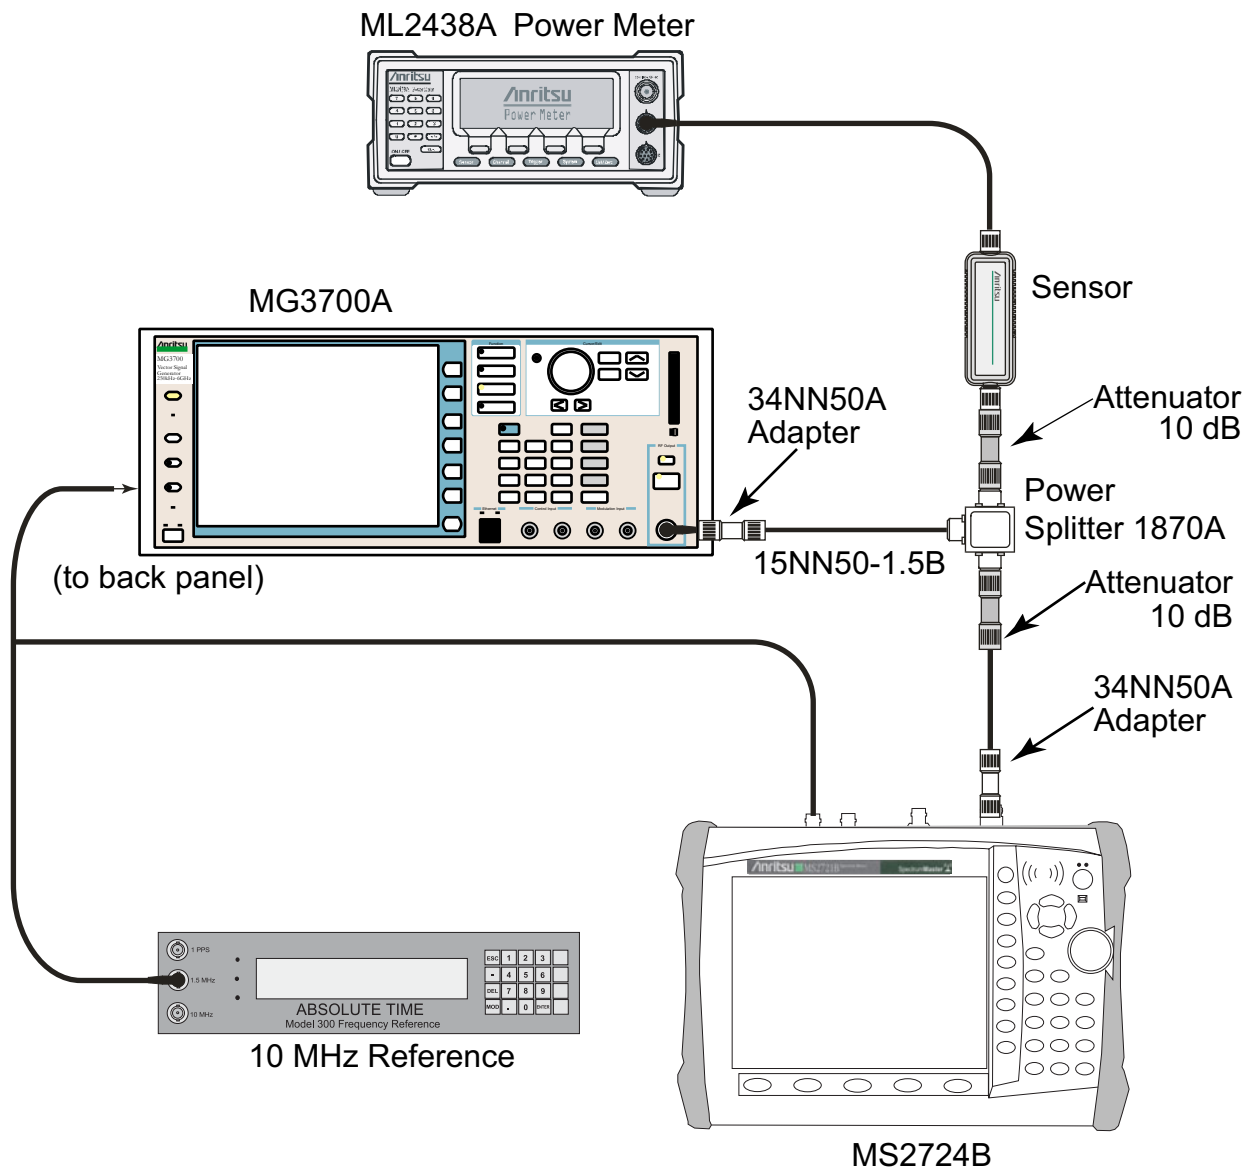

Figure 2-22. WCDMA Occupied Bandwidth – Test Setup
3. Connect the MG3700A, splitter, attenuator, power meter, and sensor as shown in Figure 2-22, “WCDMA Occupied Bandwidth – Test Setup” on page 2-51.
4. Press the **On/Off** key to turn on the MS2723B or MS2724B and wait until the measurement display appears. Then press the **Shift** key then press the **Mode** (9) key to activate the mode selection menu.
6. Press the **Shift** key, the **Preset** (1) key, and then the **Preset** soft key.
4. Press the **On/Off** key to turn on the MS2723B or MS2724B and wait until the measurement display appears. Then press the **Shift** key, and then press the **Mode** (9) key to activate the mode selection menu.
3. Connect the MG3700A, splitter, attenuator, power meter, and sensor according to Figure 2-22, “WCDMA Occupied Bandwidth – Test Setup” on page 2-51.
4. Press the **On/Off** key to turn on the MS2723B or MS2724B, and wait until the measurement display appears. Then press the **Shift** key, and then press the **Mode** (9) key to activate the mode selection menu.
6. Press the **Shift** key, the **Preset** (1) key, and then the Preset soft key.